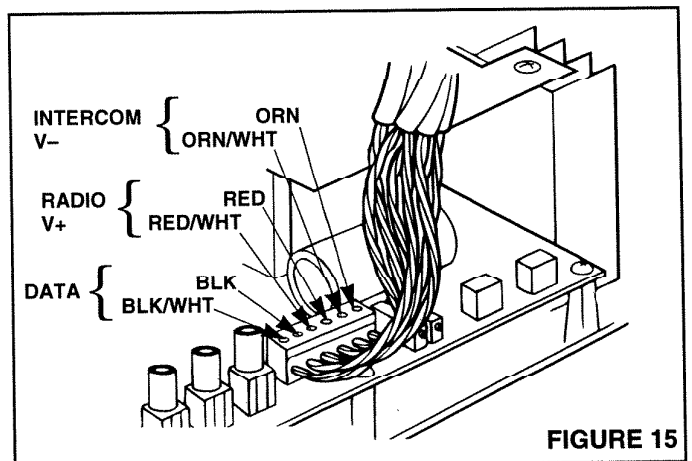

FIGURE 15
2. Refer to Figure 15. Connect the speaker wires to the terminal block located on the main P.C. board.